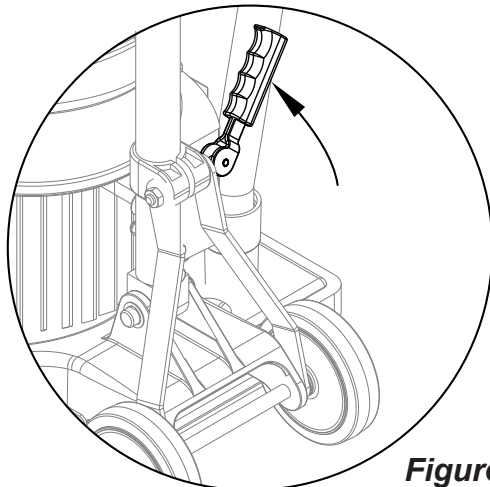

Figure 1
2. Raise and lock the handle in the upright position. To lock the handle, pull up on the Handle Release Compression Lever (see *Figure 1*).